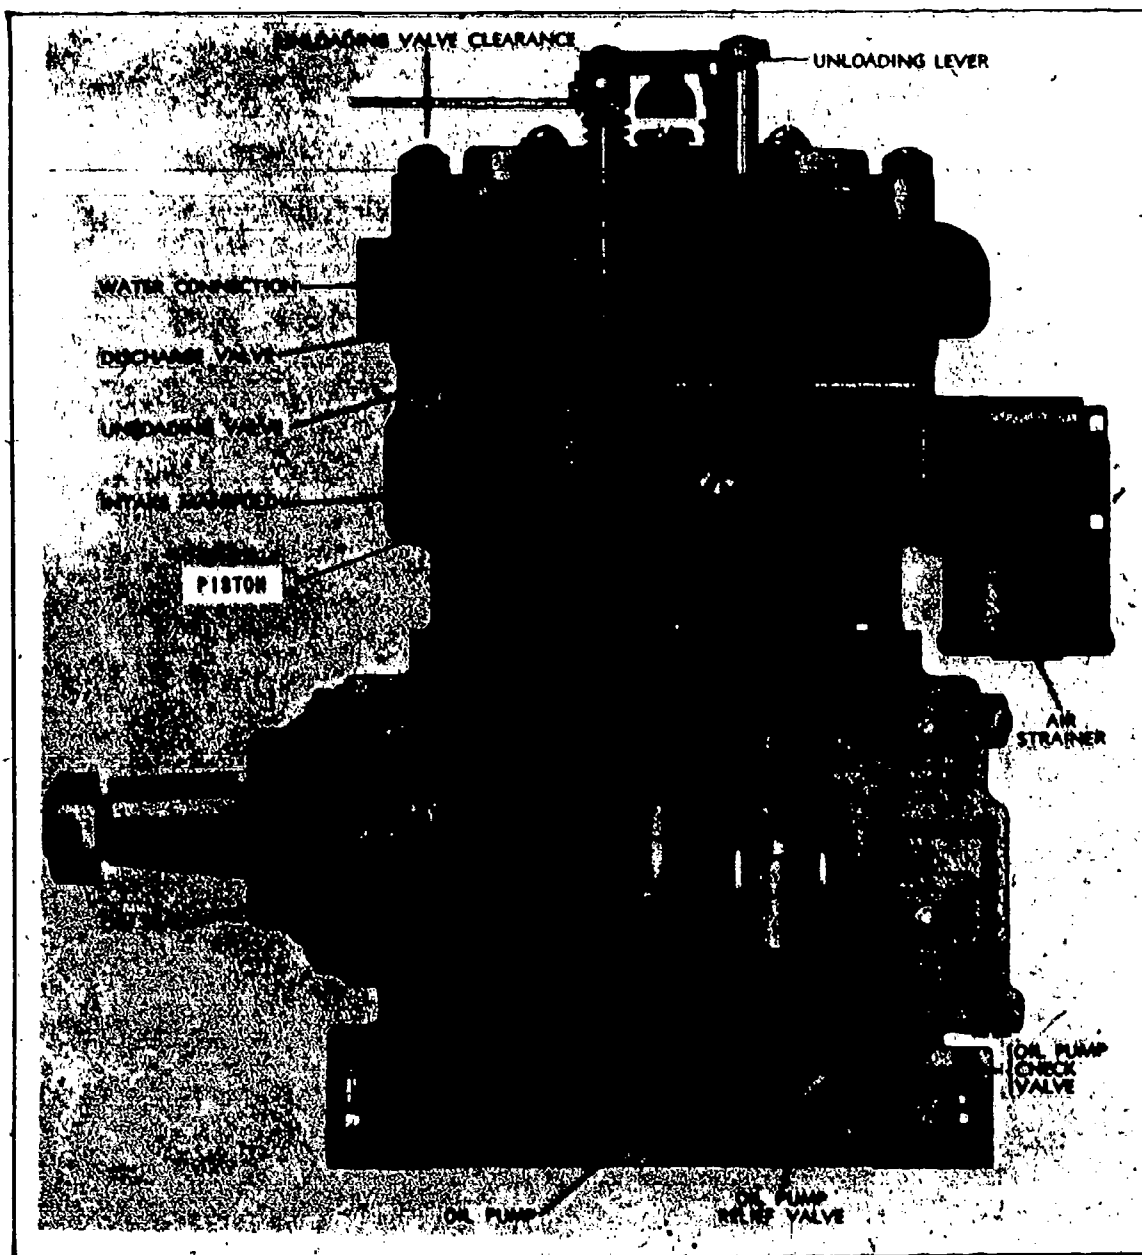

Fig 4-8. Two-cylinder, self-lubricated, reciprocating air compressor.
b. Operating principle. Construction of the reciprocating compressors (fig 4-8) used on Marine Corps engineer equipment is similar to the internal-combustion engine. They are belt- or gear-driven by the engine. As the crankshaft is turned, the piston moves up and down. On the down stroke, atmospheric pressure forces the unloading valve off its seat and fills the cylinder. When the piston starts up and the pressure has become equal on both sides of the valve, a spring will close the valve, trapping the air in the cylinder. Note that this unit does not use a camshaft to open the valve. The piston continues upward compressing the air, and when the air pressure is sufficient to overcome spring tension of the discharge valve, it pops open and the air flows to the air receiver. When the air pressure in the receiver reaches the set psi, the air governor functions and directs the air pressure to operate the unloading lever. The unloading lever holds the unloading valve open and the piston cannot compress the air enough to overcome the discharge valve spring tension.